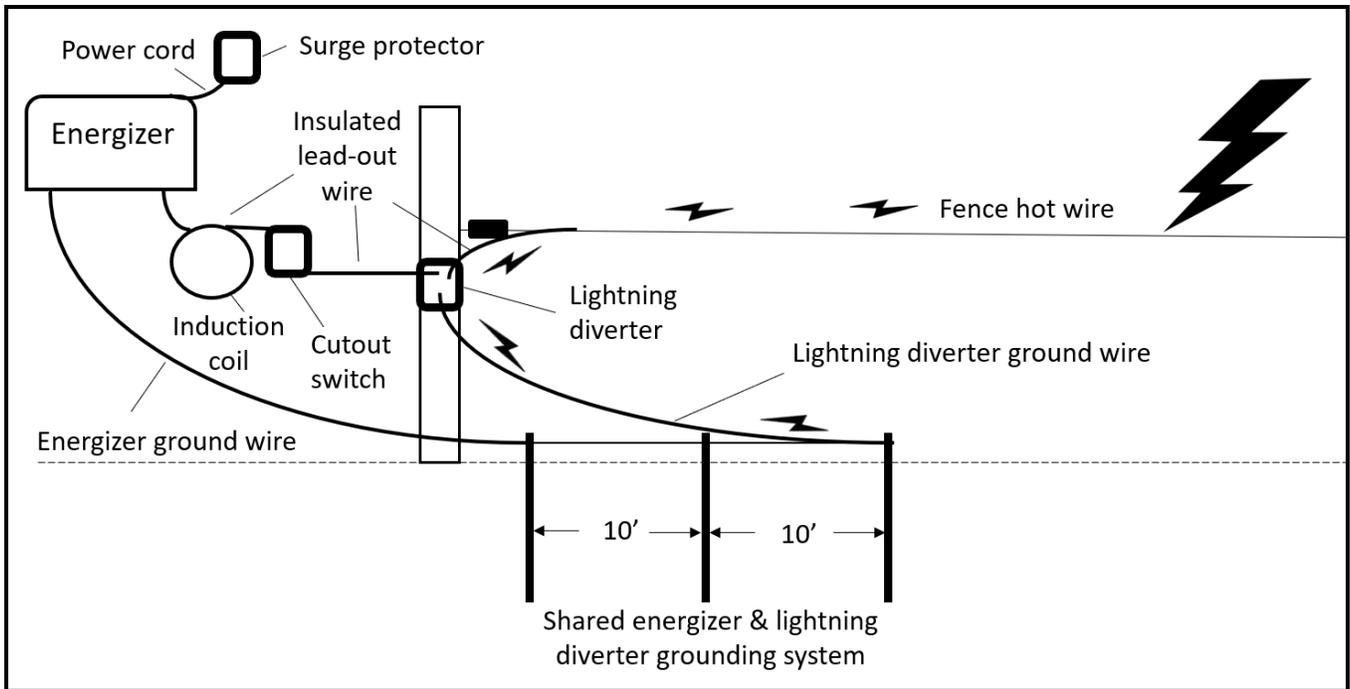
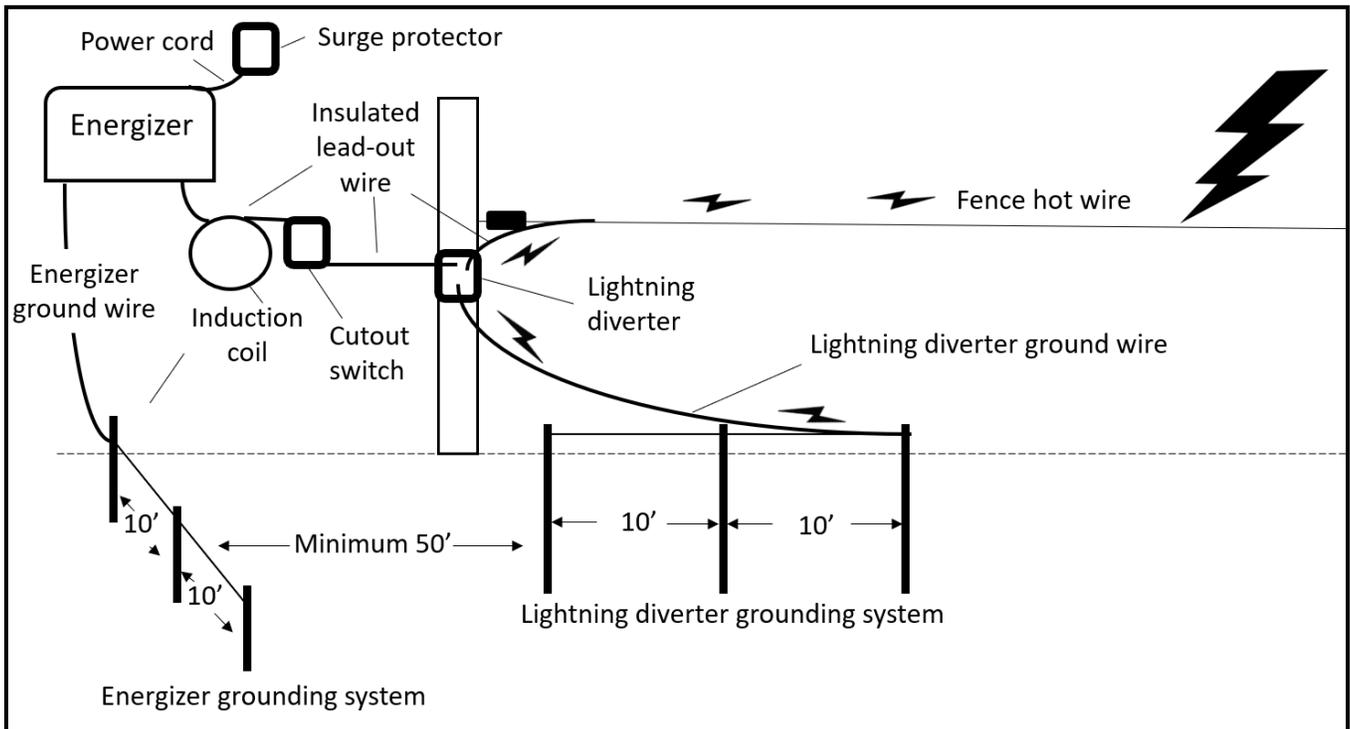

Figure 5. Lightning diverter using the energizer's grounding system.
Figure 6. Lightning diverter using a separate grounding system.
2. Electrical surges coming from residential electric supply are one of the main causes of damage to energizers. It is important to purchase an external, after-market surge protector (like the type used for home computers) to protect your energizer from electrical surges. Lightning strikes on the fence are also common and can severely damage an energizer. You should therefore install a lightning diverter on the lead-out wire between the energizer and the fence. One terminal on the lightning diverter will attach to the lead-out wire coming from the energizer and going to the fence. Depending on the type of lightning diverter you use, a second terminal on the diverter will attach to a wire going to your energizer’s grounding system (figure 5), or to a separate grounding system installed specifically for grounding lightning (figure 6). Follow the recommendations specified for the lightning diverter you purchase.